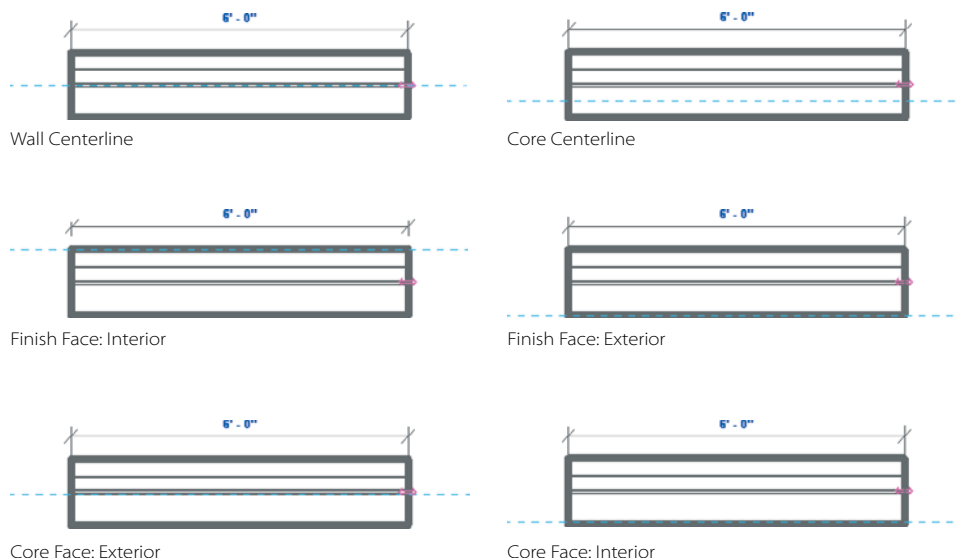

Figure 3.44
**Location Line** This option determines where the wall sits around the line that you sketch to define the wall location. A wall's Location Line property sets which vertical plane is used to position the wall in relation to the sketch you are creating to define the wall. The six different wall vertical planes are Wall Centerline, Core Centerline, Finish Face Exterior, Finish Face Interior, Core Face Exterior, and Core Face Interior (Figure 3.44).